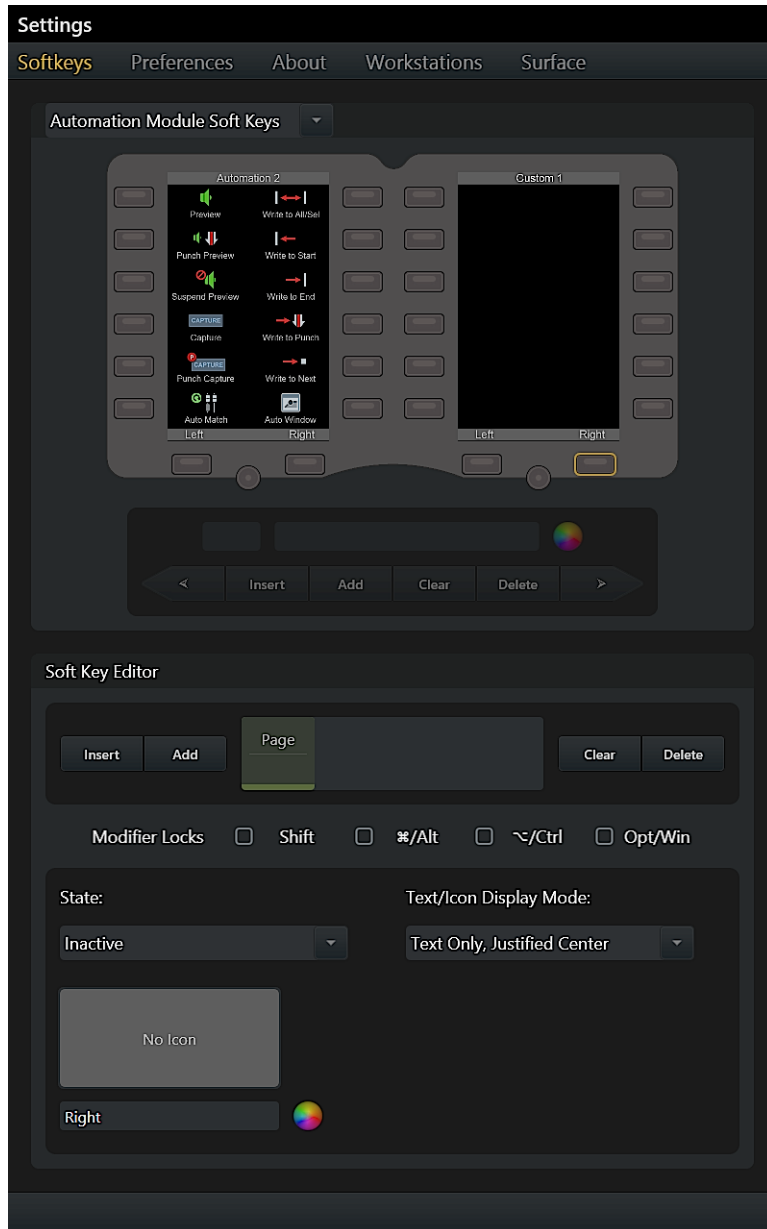

Figure 51. Left and Right navigation keys defined for a Soft Key bank
- 8 Repeat the previous steps for the “right” navigation key of the new bank, defining it to Go to Next Page as shown in Figure 51.